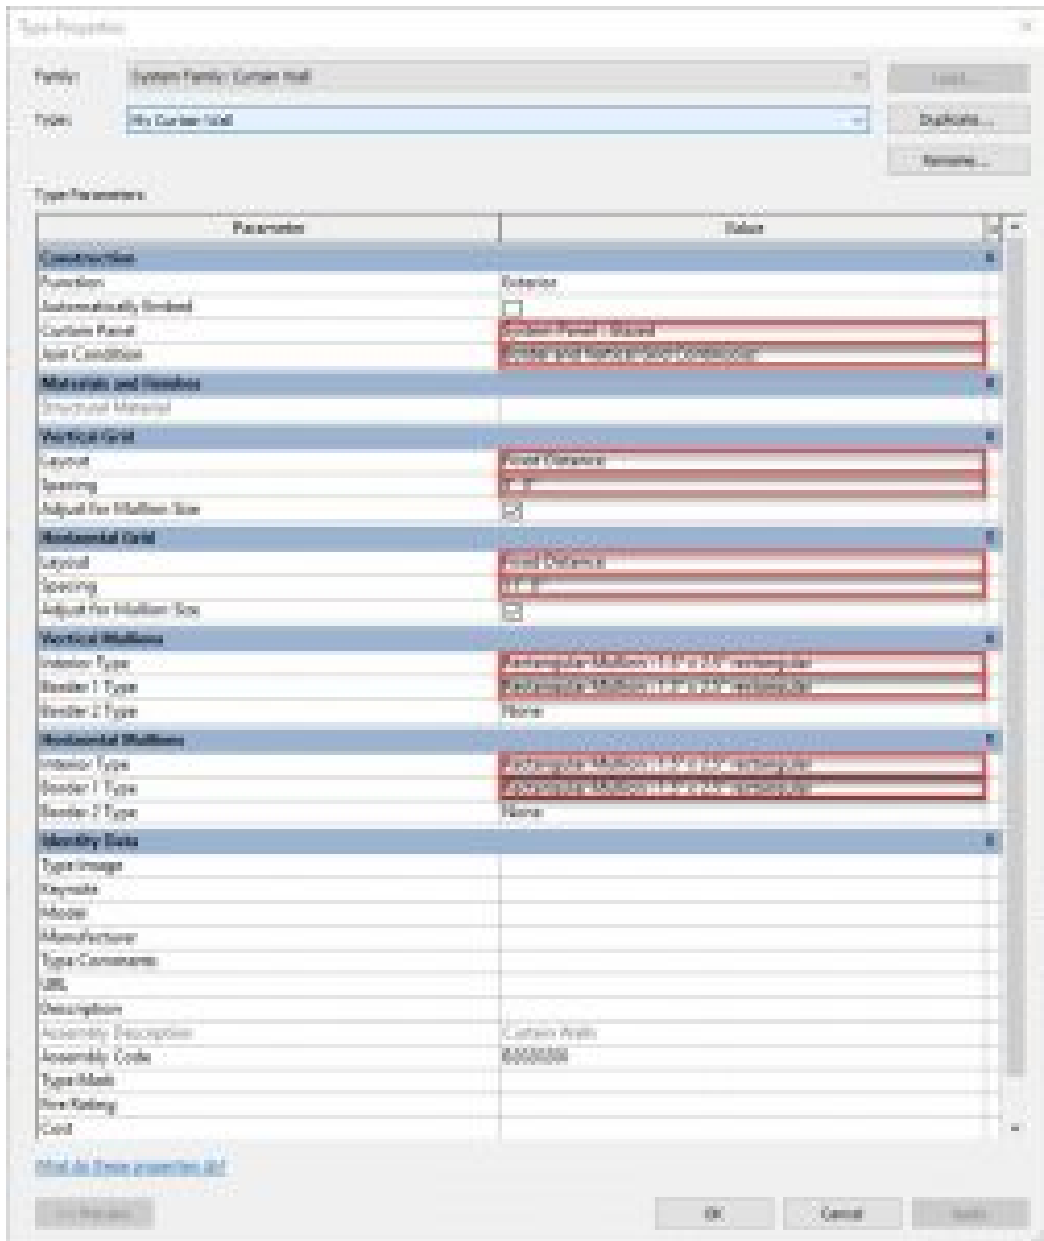

Figure 2.31 Curtain wall Type Parameters
6. The Type Properties window will open, click the Duplicate button as shown in Figure 2.31